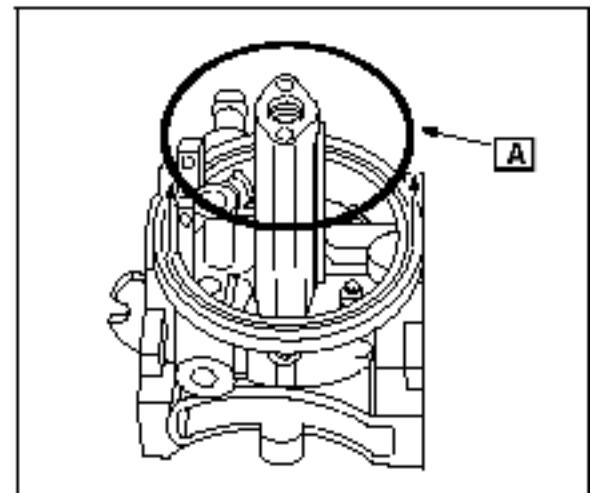

Fig. 52
2. Remove float bowl gasket ([A] Fig. 52).